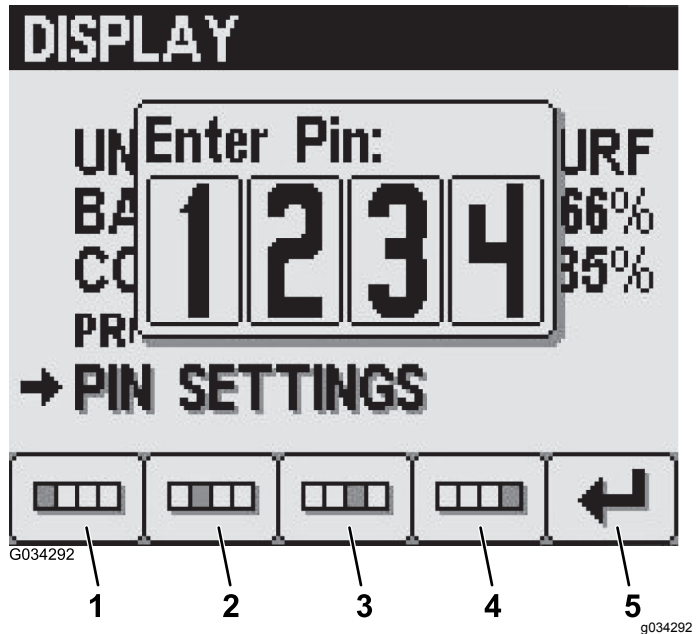

Figure 32
2. Enter your 4 digit PIN using buttons 1 to 4, and press button 5 to enter the PIN into the InfoCenter (Figure 32).
4. In the Enter Old PIN screen, enter your old PIN using buttons 1 to 4, and press button 5 to enter the PIN into the InfoCenter (Figure 32).